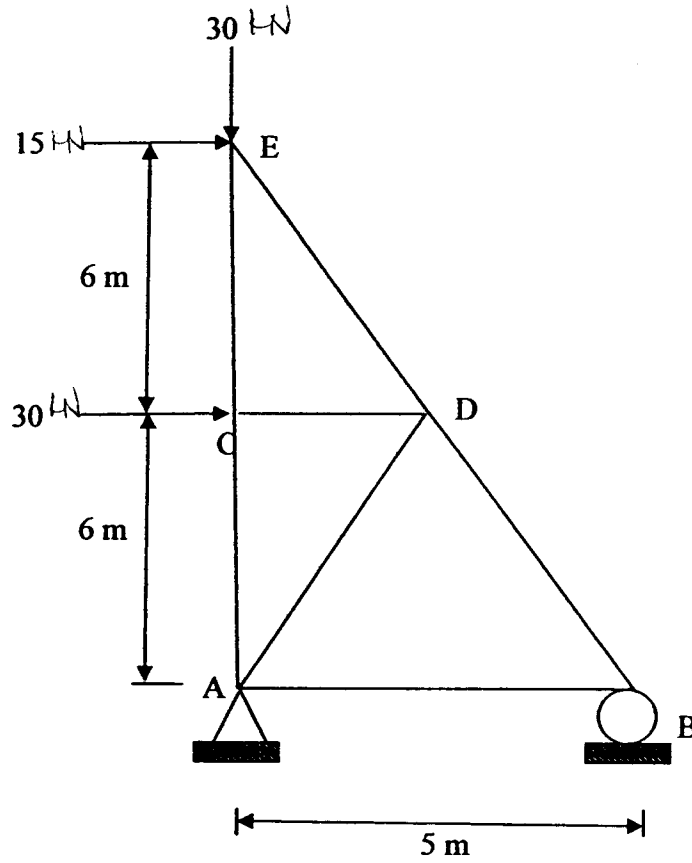

FIGURE Q6
- (c) In Figure Q6, a statically determinate plane truss is pinned at A and supported by roller at B.